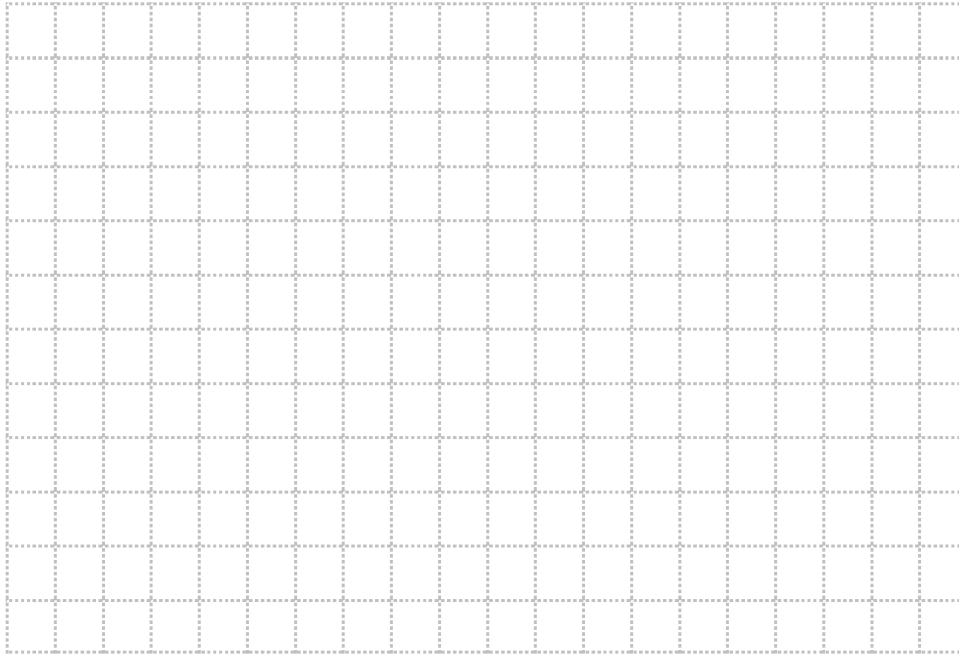

Figure 1-9. Head versus flow rate.
- 20. Plot the head versus flow rate curves in Figure 1-9.